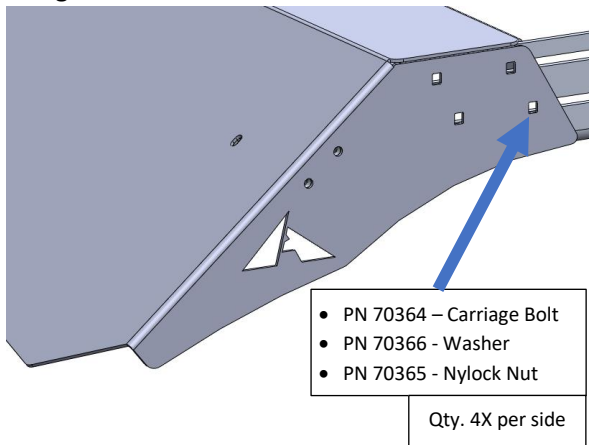

Figure 11: Air Dam Subassembly Installation
8. Install air dam subassembly onto roof rack using appropriate carriage bolts and hardware shown in Figure 11.